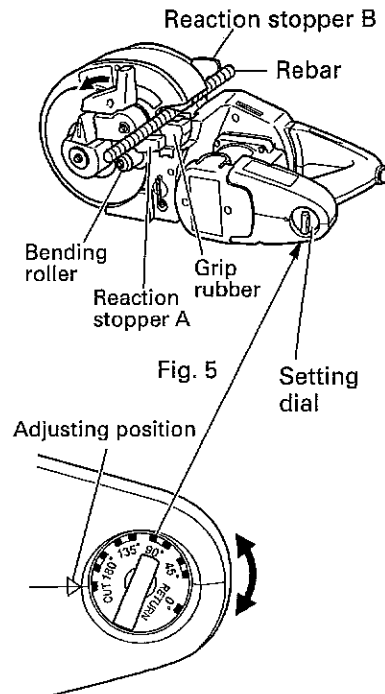

Fig. 5
1. Normal cutting (Fig. 5)
- (3) Set the unit in the position shown in Fig. 5.
- (4) Set the rebar to be cut on the lower cutter.
- (5) When the rebar is set, make sure that the reaction stopper B is hooked to the rebar.
- (6) Pull the switch trigger and cut the rebar.